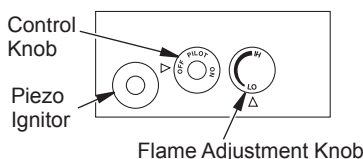

Figure 18 - Setting Control Knobs
5. Wait five (5) minutes to clear out any gas. If you then smell gas, STOP! Follow "B" in the safety information in column 1. If you don't smell gas, go on the next step.
6. Press in and turn control knob counterclockwise  to the PILOT position. Press in control knob for five (5) seconds (see Figure 18).
4. Press in and turn control knob clockwise  to the OFF position (see Figure 18).